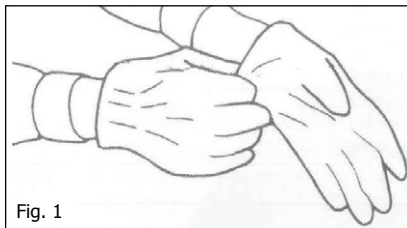

Fig. 1
**IMPORTANT:** For all assembly and repairs always wear heavy work gloves to protect your hands (fig. 1).
Always wear **HEAVY GLOVES** to protect your hands whilst working on the equipment (fig. 1, page 4).